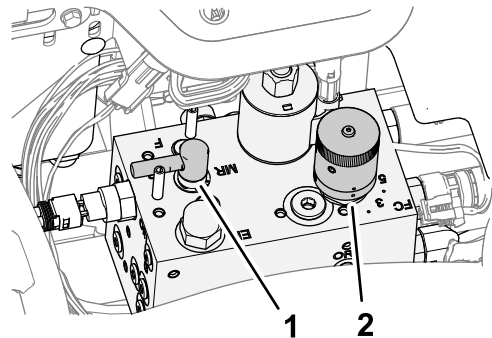

Figure 94
- Move the backlap lever to the F (mow) position (Figure 94).